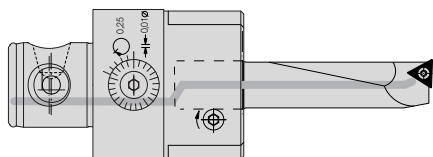

fig. 2
- Internal coolant feed up to the cutting edge, permissible pressure: max. 20 bar (290 PSI) (fig. 2)